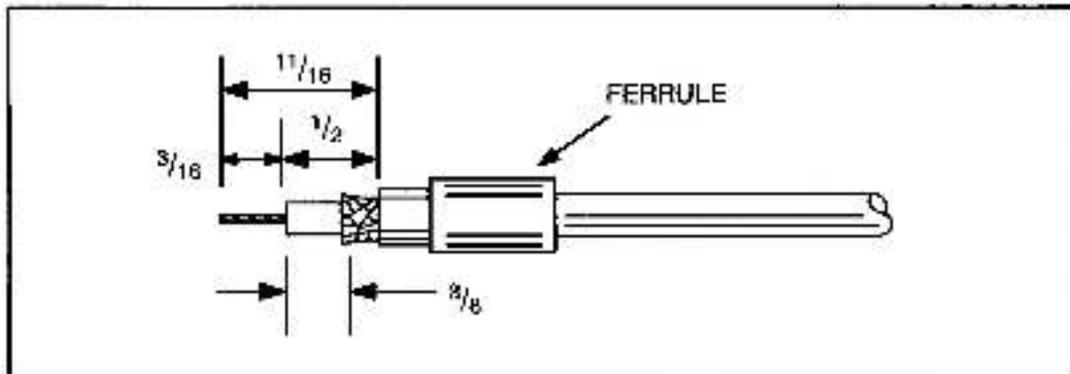

Figure 3.17 - RG-11/U (Belden 8213) Cable Stripping Dimensions
- Step 2. Strip the coax using the dimensions shown in figure 3.17. Be sure the shield braid wire is cut to the correct length and cannot touch the center conductor.